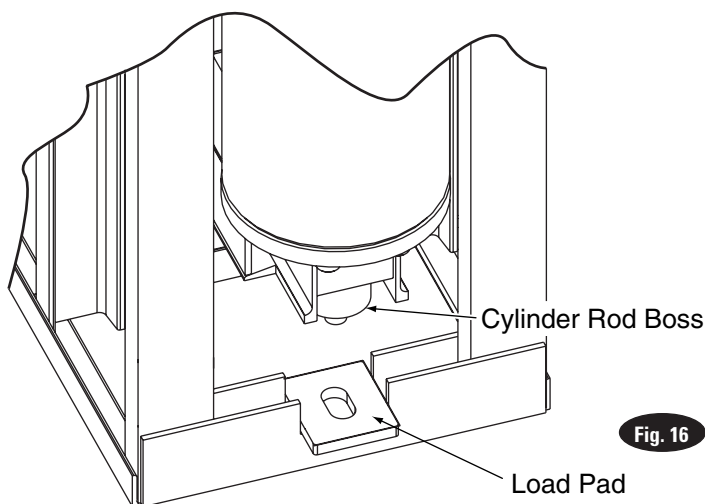

Fig. 16
- B. Look into the containment tube to check that the high pressure cylinder rod is in the load pad hole, Fig. 16.